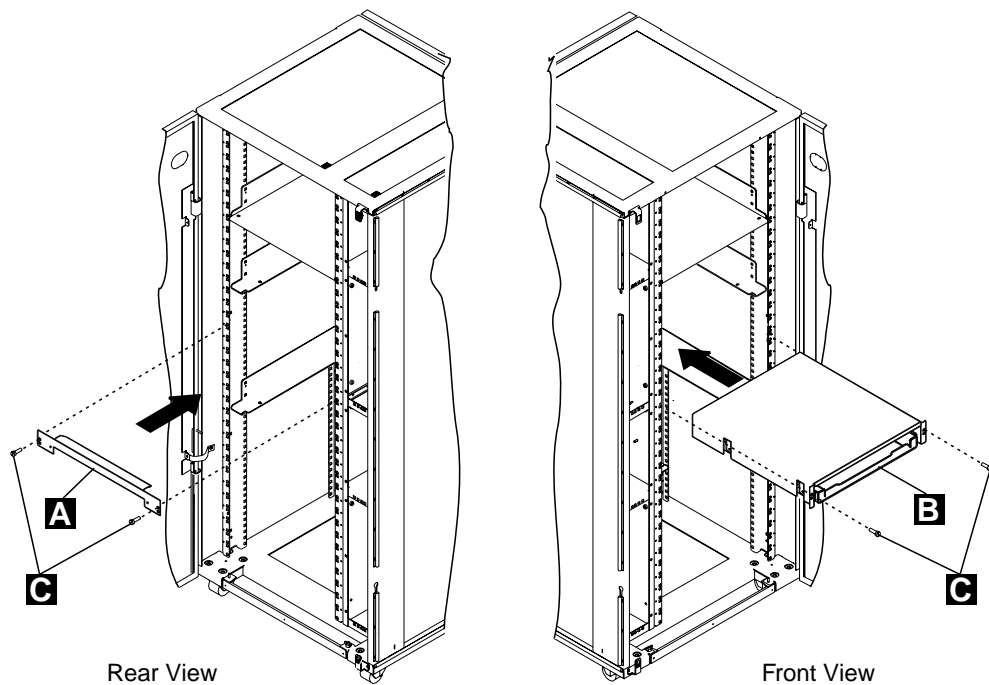

Figure 1-30. Installing the Service Drawer
14. ____ Refer to Figure 1-30, on the rear side of the controller expansion, install bracket **A** using two screws **C** (PN 1621230).